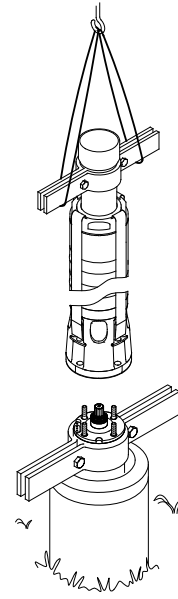

Fig. 19 Lifting the pump into position
3. Lift the pump part by means of pipe clamps fitted to the extension pipe, see fig. 19.